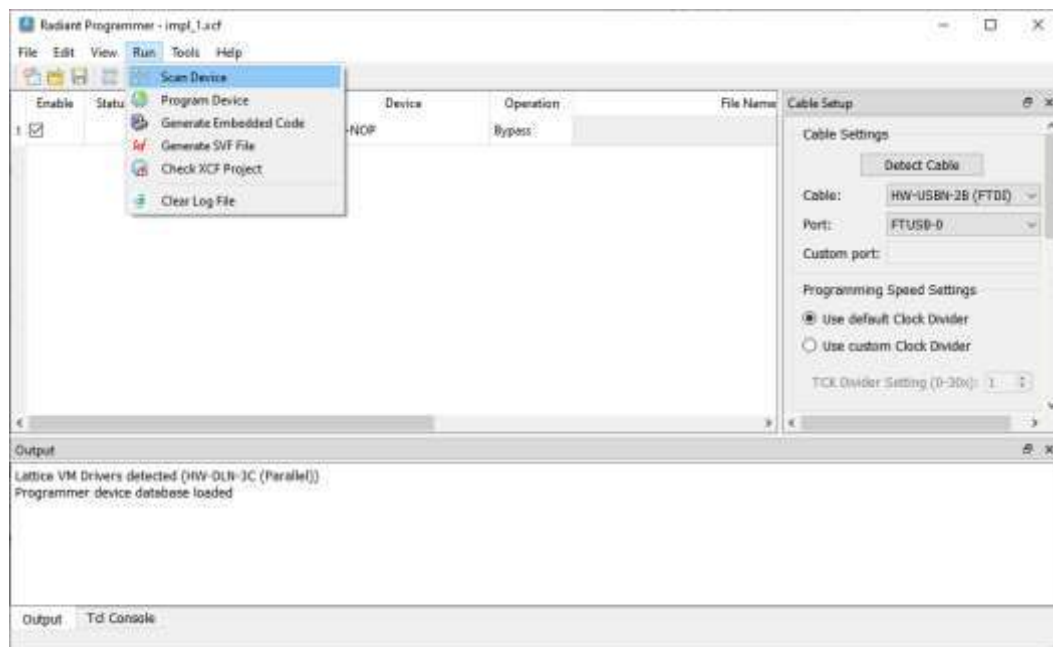
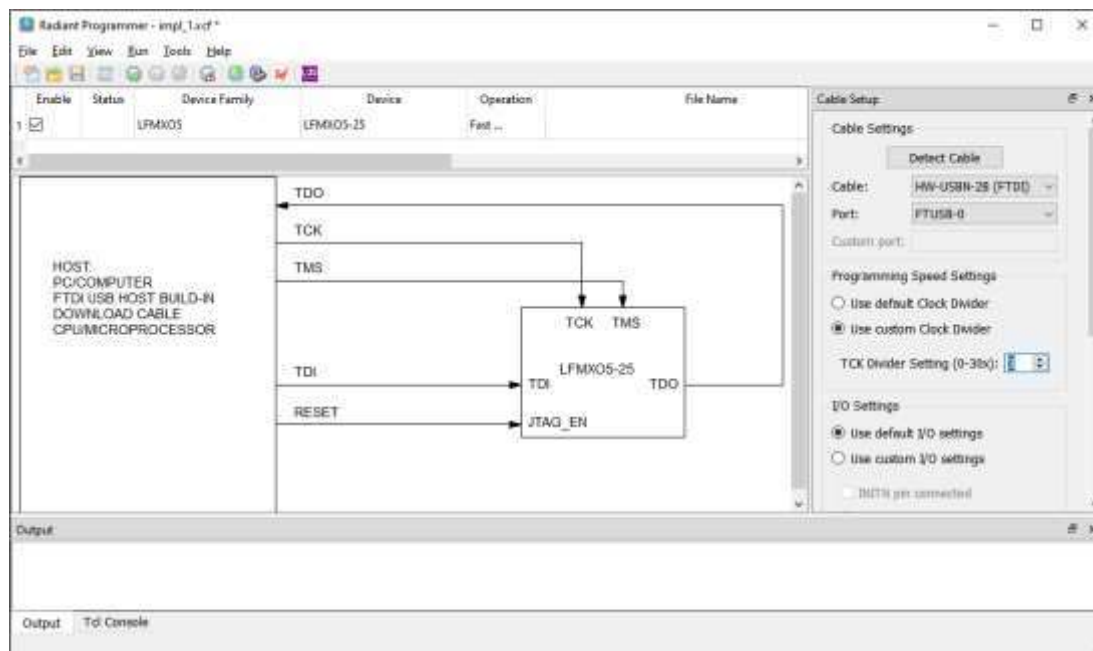

Figure 9.3. Radiant Programmer -Scan Device
Figure 9.4. Radiant Programmer – Device Detected
4. Click **Run > Scan Device** to check the board through FTUSB-0 Port of embedded HW-USBN-2B(FTDI) cable, as shown in Figure 9.3. The MachXO5-NX device named as LFMXO5-25 should be detected on the JTAG chain as shown in Figure 9.4.
5. Change the **Programming Speed Settings** in the **Cable Setup** pane on the right. Use **custom Clock Divider** option to increase the **TCK Divider Setting** to 3 or above, as shown in Figure 9.4.